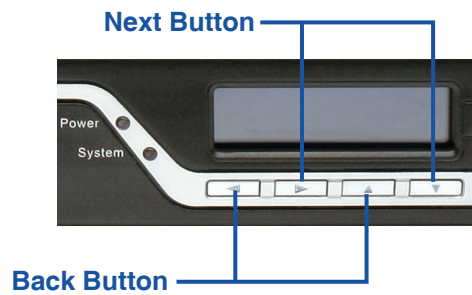

Figure 6. Button Definitions (After Boot-up)
1. Attach the mounting brackets to each side of the chassis as shown in figure 6 and secure them with the provided screws.